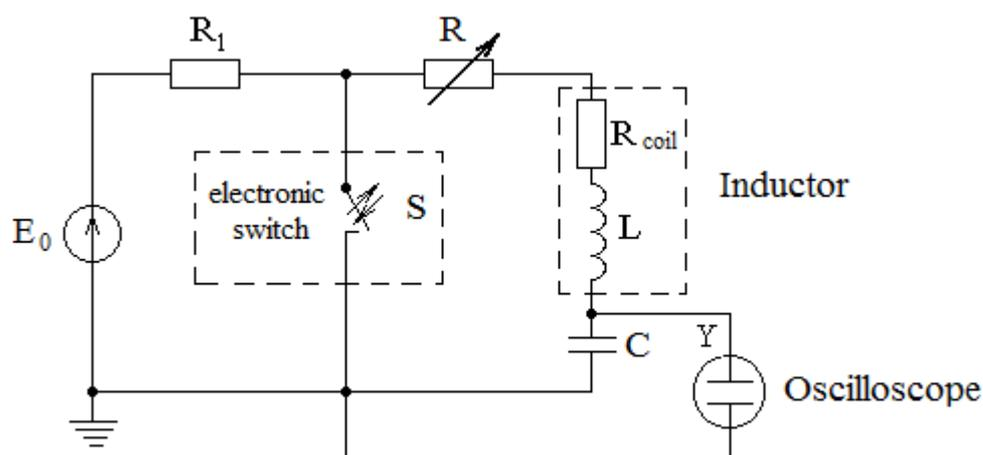

Figure 2.1 – Scheme of research the RLC -circuit
2.2.1 Assemble the electric circuit as shown in figure 2.1.
2.3.1 For the circuit in figure 2.1 theoretically calculate the damping factor α_{theory} and the natural frequency $\omega_{0\text{theory}}$ by using given values of total resistance $R_{\Sigma} = R + R_{\text{coil}}$, L and C (according to the assignment option, table 2.1).